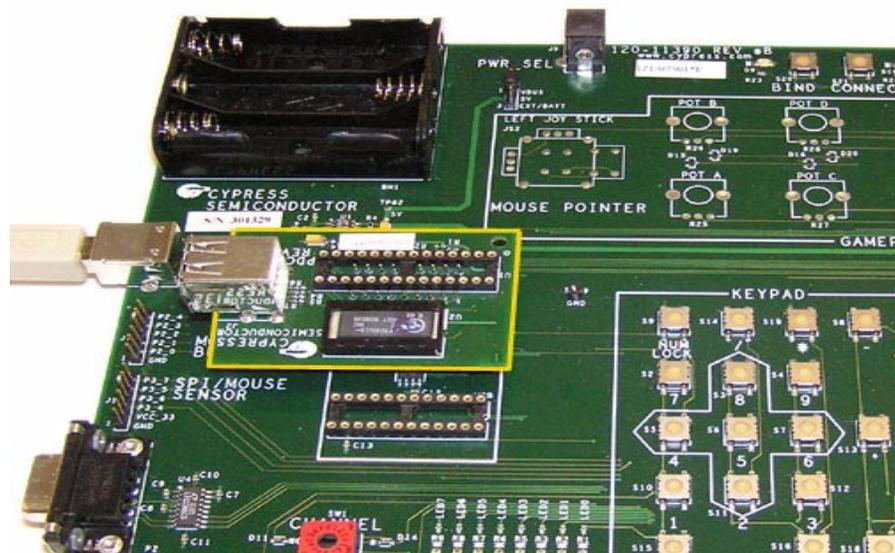

Figure 3. USB Hub Adapter Board installed into Platform Board (XBOX Receiver Dongle)
A close-up of the receiver dongle is shown Figure 3. The XBOX USB Adapter Cable along with a standard USB cable are used to interface the Platform Board to the XBOX Console. Power for the receiver is provided by the XBOX USB interface. Note: The Platform Board and the standard USB cable are supplied with the standard CY3632 WirelessUSB LS DVK (they are not included in the CY3633 WirelessUSB LS Gaming DVK).
2. Install the USB Hub Adapter board as shown in Figure 3 above and ensure that the radio module is installed in P1 correctly.